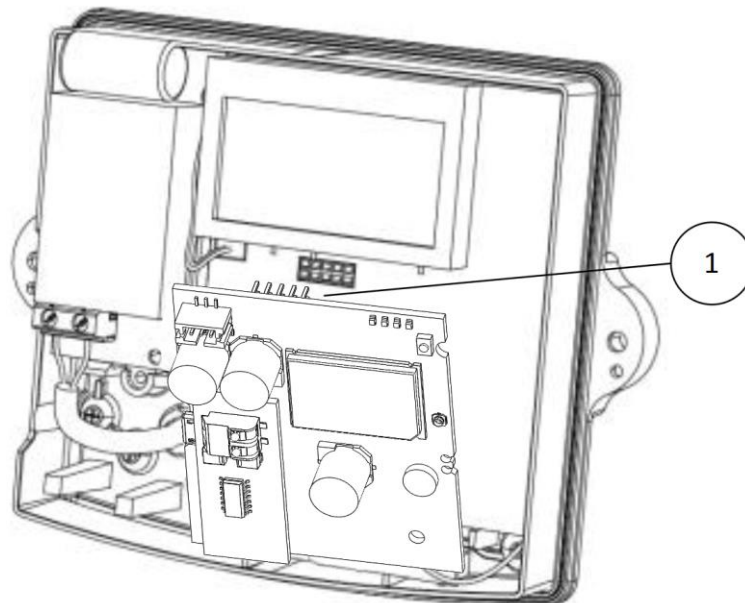

Figure 6: Mounting the CMi2130
The CMi2130 is mounted in the Itron CF 51/55/ECHO II, as illustrated by Figure 6. Make sure that the pins are placed in the board-to-board connector (1).